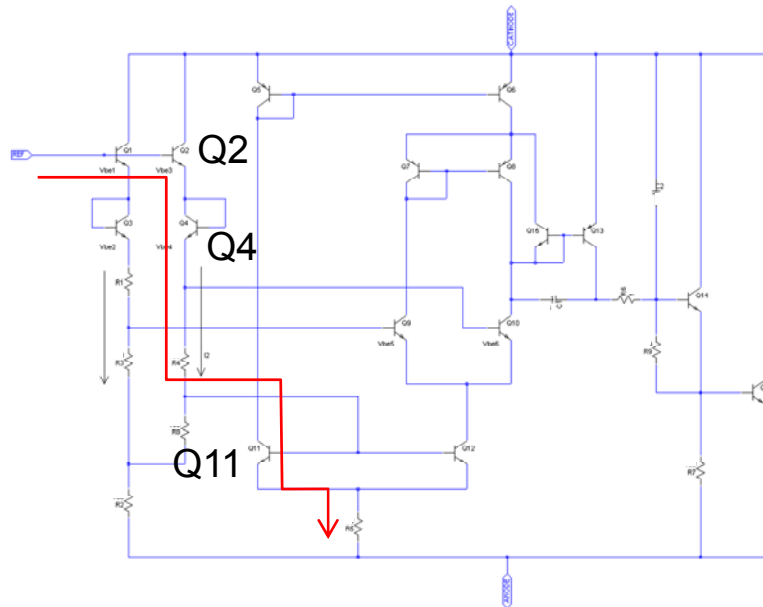

Figure 2: AP431 schematic
- 2.1 The simplified schematic of AP431 is illustrated in fig.2. The path of Q2, Q4, Q11 creates an internal bias circuit for IC normal operations. If REF voltage is below $3 \cdot V_{be}$ (by Q2, Q4, and Q11), the internal biasing circuit ceases to operate. Therefore, the minimum required REF voltage for normal regulation is $3 \cdot V_{be}$, typically 2.1V at room temp.